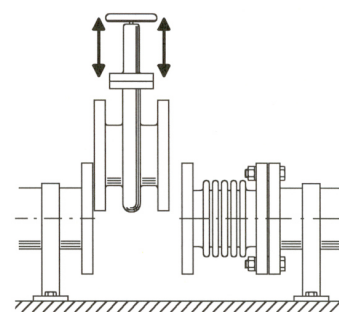
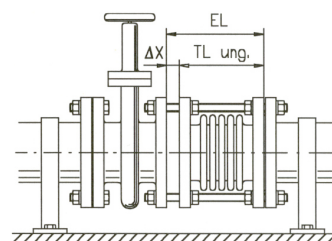
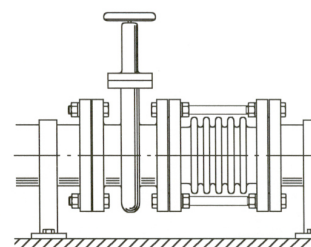

Fig. 10
Fig. 11
Fig. 12
- Flange the disassembly joint to one pipe end (fig. 10). On the other side, pull the disassembly joint towards the components (valve, shut-off gate, pumps, etc.) either using long screws (unrestrained) or with the supplied threaded rods (restrained) (fig.11). When installed correctly, the disassembly joint is restrained (fig. 12).